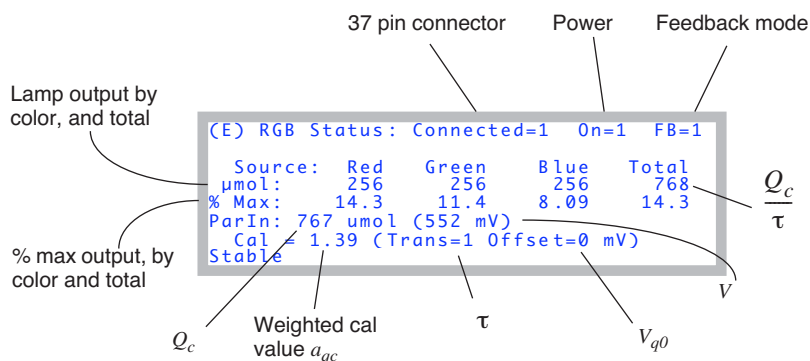

Figure 8-18. The RGB Diagnostics display.
When configured for the RGB Source, the Lamp Diagnostic screen (E) looks like Figure 8-18. (Read about the Diagnostics screens in New Measurements mode in **Diagnostics** on page 6-24).